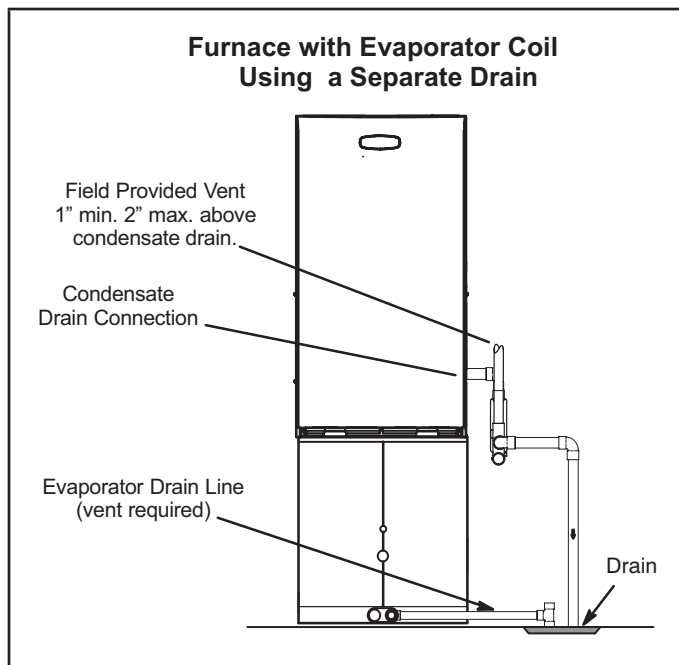
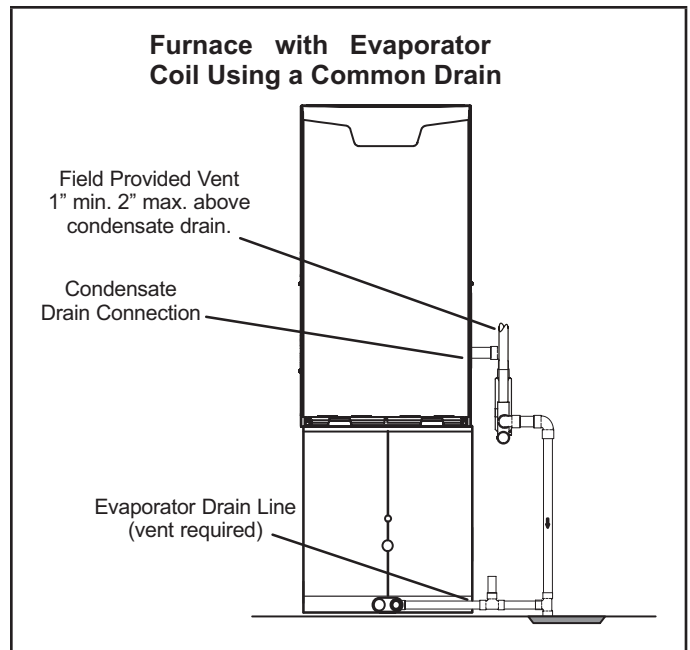

FIGURE 45
FIGURE 46
- 5 - FIGURE 45 shows the furnace and evaporator coil using a separate drain. If necessary, the condensate line from the furnace and evaporator coil can drain together. See FIGURE 46. The field provided vent must be a minimum 1" to a maximum 2" length above the condensate drain outlet connection.